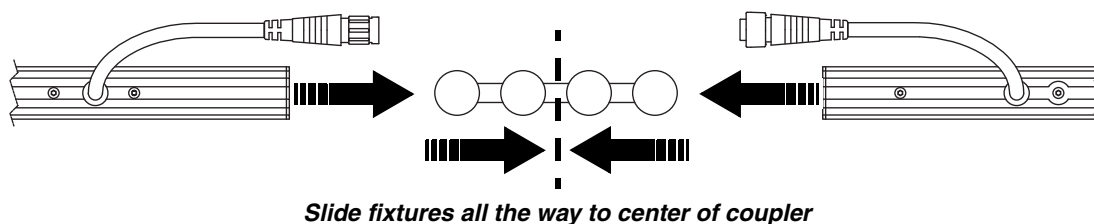

Figure 8: Installing an end-to-end coupler
1. See Figure 8. Slide the coupler into the channels in the rear of the fixtures until both fixtures meet in the center of the coupler.